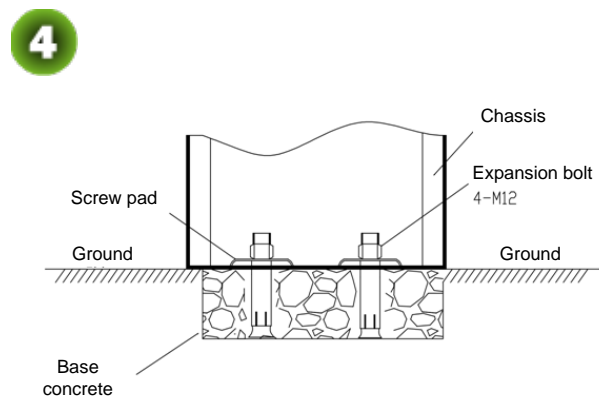

Figure 2-5
- 4) Install screw pads and use a wrench to tighten nuts, as shown in Figure 2-5.